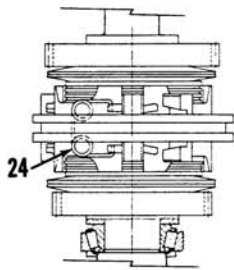

Fig. Y1-48—Attach ends of return springs (24) to holes in pressure plates.
over drive plate making sure steel balls remain in position and slots of both plates match. Install pressure plate return springs (24) between shift ring (25) and drive plate (22), and attach spring ends to small holes in side of pressure plates as shown in Fig. Y1-48. Install reverse gear assembly so tangs of all three steel plates properly engage slots in pressure plate (23). Install needle bearing (29) and thrust washer (36) with copper sintered side of thrust washer facing reverse gear. Using a suitable bearing driver install output shaft rear bearing (37) making sure bearing inner race bottoms on thrust washer (36). Check for smooth rotation of both forward and reverse gears and correct operation of shift ring.